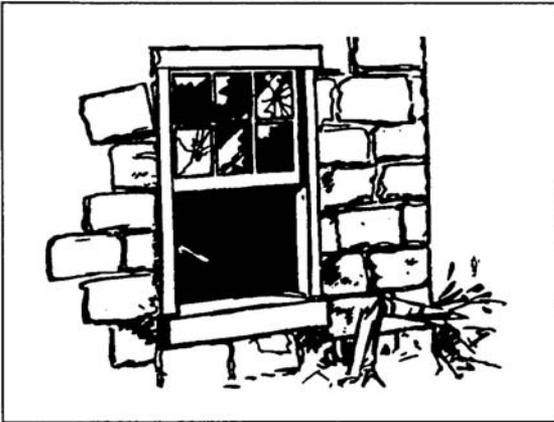

Figure 071-326-0557-4. Firing from a window
- b. Select a kneeling firing position. This will reduce your exposure and prevent silhouetting (figure 071-326-0557-4).